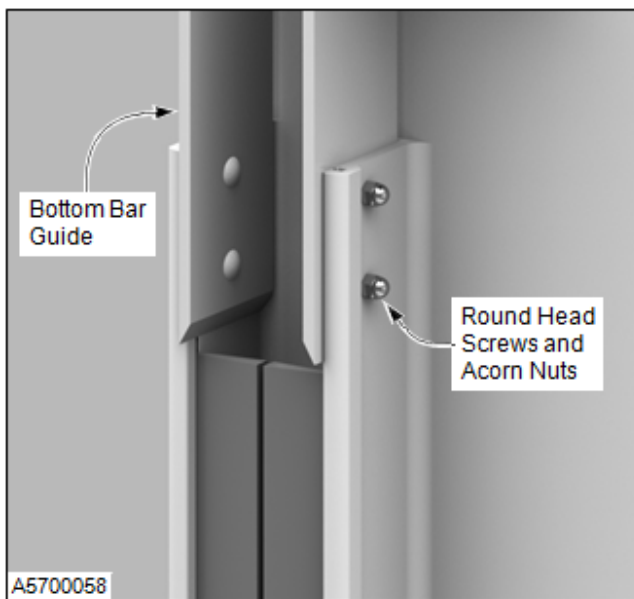

Figure 45
2. Remove the bottom bar guide(s) from the side column. (See Figure 45)